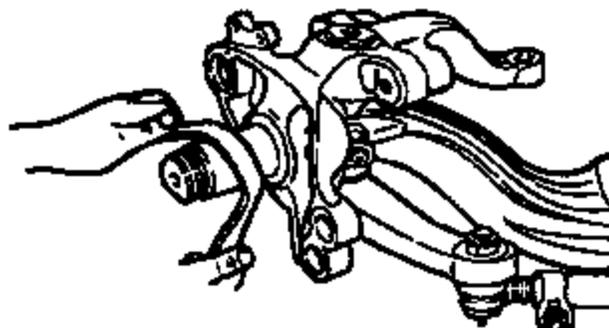

Figure 4
- Check the knuckle spindle for scratches, nicks or marks. Minor surface damage may be repaired using a crocus or emery cloth. Refer to Figure 4.